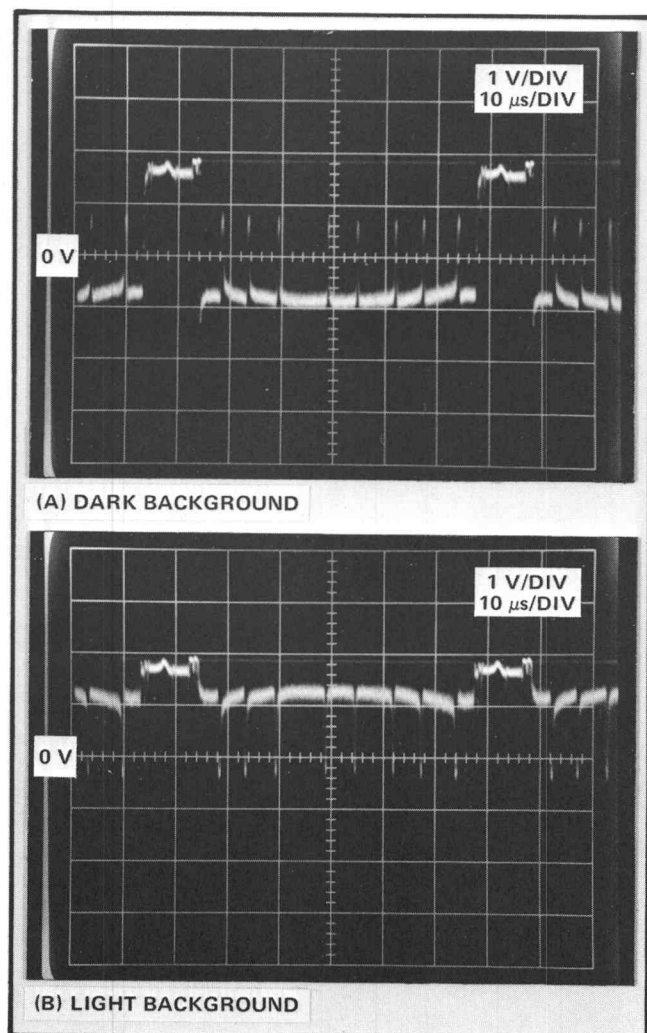
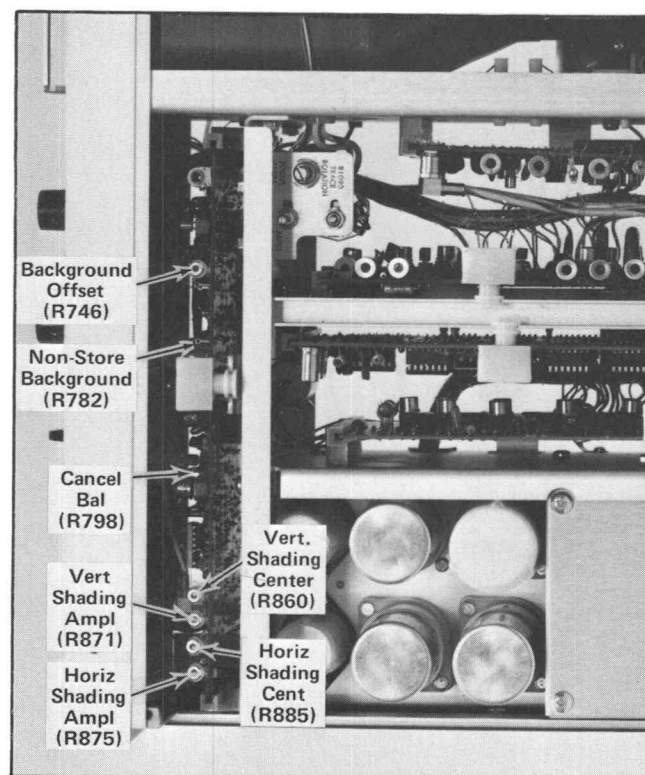

Fig. 5-22. Video amplitude and Background Offset level (TP765) after proper adjustment.
Fig. 5-23. Location of Read Amplifier Adjustments.
Proper video signals at TP765 are shown in Fig. 5-22 for the LIGHT and DARK positions of the BACKGROUND switch. The DC level of the video background and the video
d. Adjust R746 (Background Offset in Fig. 5-23) to obtain inverting video signals with their background levels at about -0.6 V (DARK) and +1.2 V (LIGHT). The average of these two levels is slightly positive (about 0.4 volts). In Fig. 5-22 the curvature of the background level is a result of an incorrect shading adjustment. The Cancel Balance is also misadjusted. Setting the Shading and the Cancel Balance adjustments is explained later in this procedure. If background level curvature is present, determine the background level at either end of the curved portion or visualize the level with the curvature removed.
g. Remove the ground from TP272 to enable the CRT READ Current Regulator circuit to re-establish a video amplitude of 1.5 V as shown in Fig. 5-22.
a. Adjust R875 (Horizontal Shading Amplitude) and R885 (Horizontal Shading Centering) to obtain the straightest possible video background. The location of these controls is shown in Fig. 5-23.
a. Adjust R798 (Cancel Balance in Fig. 5-23) to null (cleanest baseline) the video during horizontal blanking.